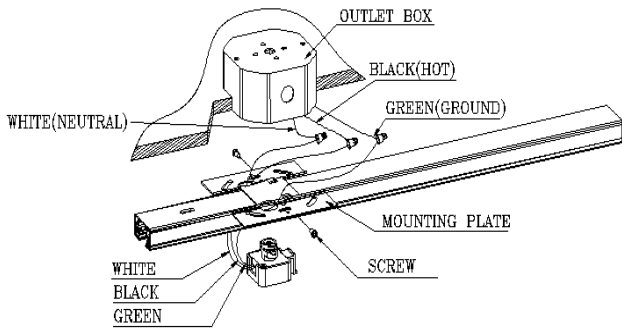

Fig. 4
2. Connect the white wire from the supply circuit to the white from the floating live-end connector. Connect the black wire from the supply circuit to the black wire from the floating live-end connector. Connect the green ground wire from the supply circuit to the green conductor of the floating live-end connector. Secure splices with UL Listed wire connection suitable for the size, type and number of conductors. (See Fig. 4)